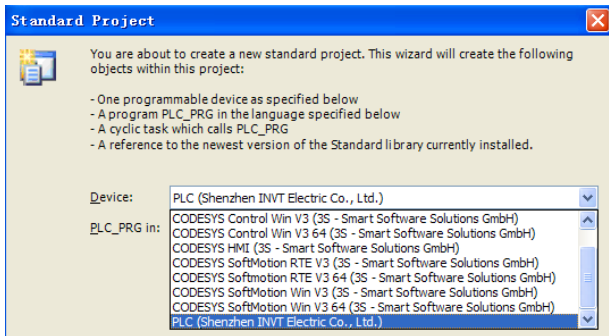

Figure 3-5
1. After opening CODESYS, choose **File -> New Project -> Standard Project** to create a project, click **OK**, and choose the PLC device for INVT in the dialog box that appears, as shown in Figure 3-5.